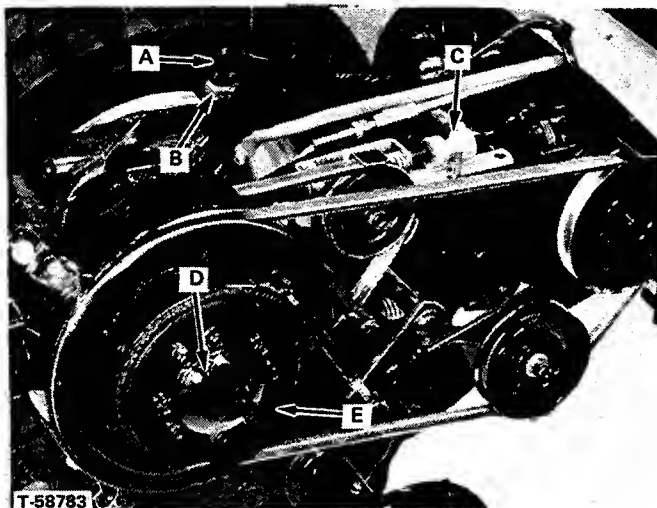

FIGURE 11 - Shuttle Planetary Gear
1. With tractor engine stopped, key removed, and parking brake set, pry off cover cap (D, Figure 11) carefully with a screwdriver.
4. Apply a small amount of grease to the pin groove of the shuttle drive brake detent (C) and to the head of the bolt (B) that actuates the interlock safety switch (A).